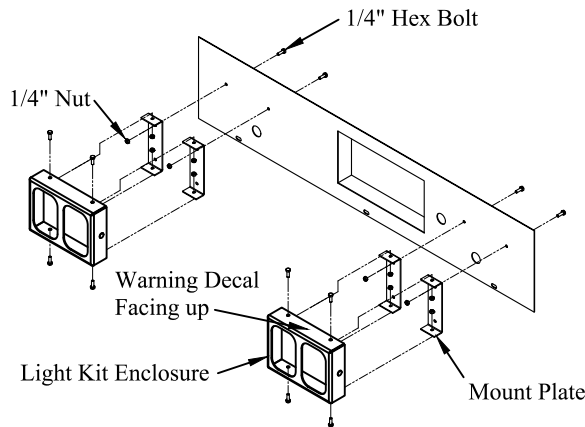

Figure 24: Light kit assembly location.
- 15. **Bolt** the light kit to the box cover using the supplied 1/4" bolts and nuts (Figure 24). Make sure that no wires are pinched between the kit and the liftgate and that the warning decal is facing up (Figure 26).
- 16. **Tighten** all light kit bolts to 9ft-lb (Figure 24).